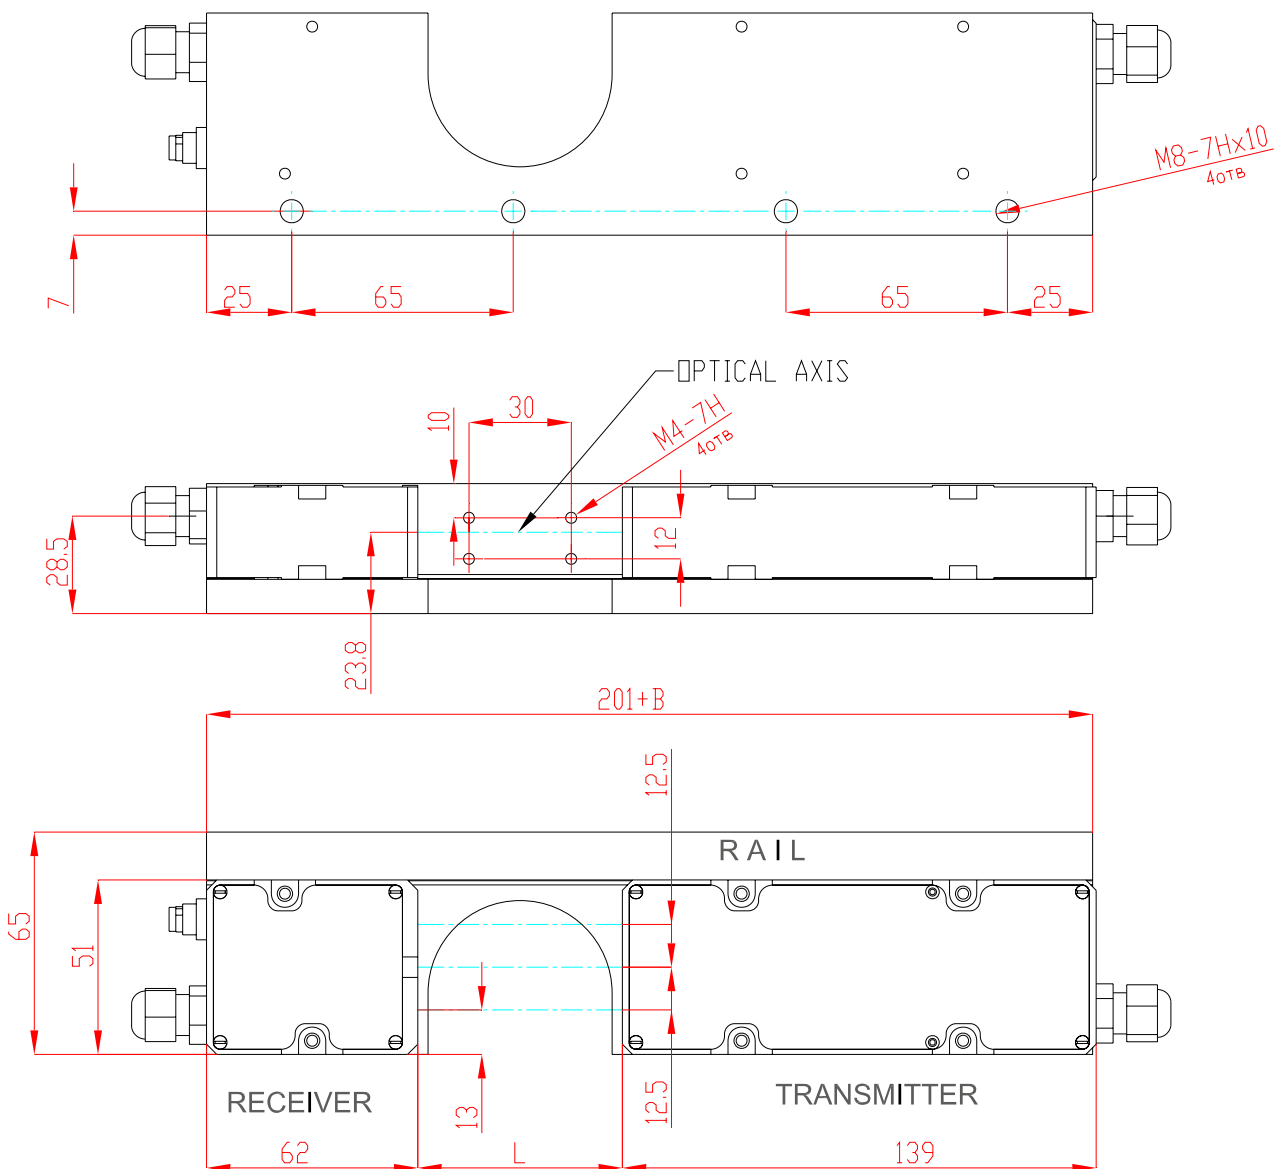
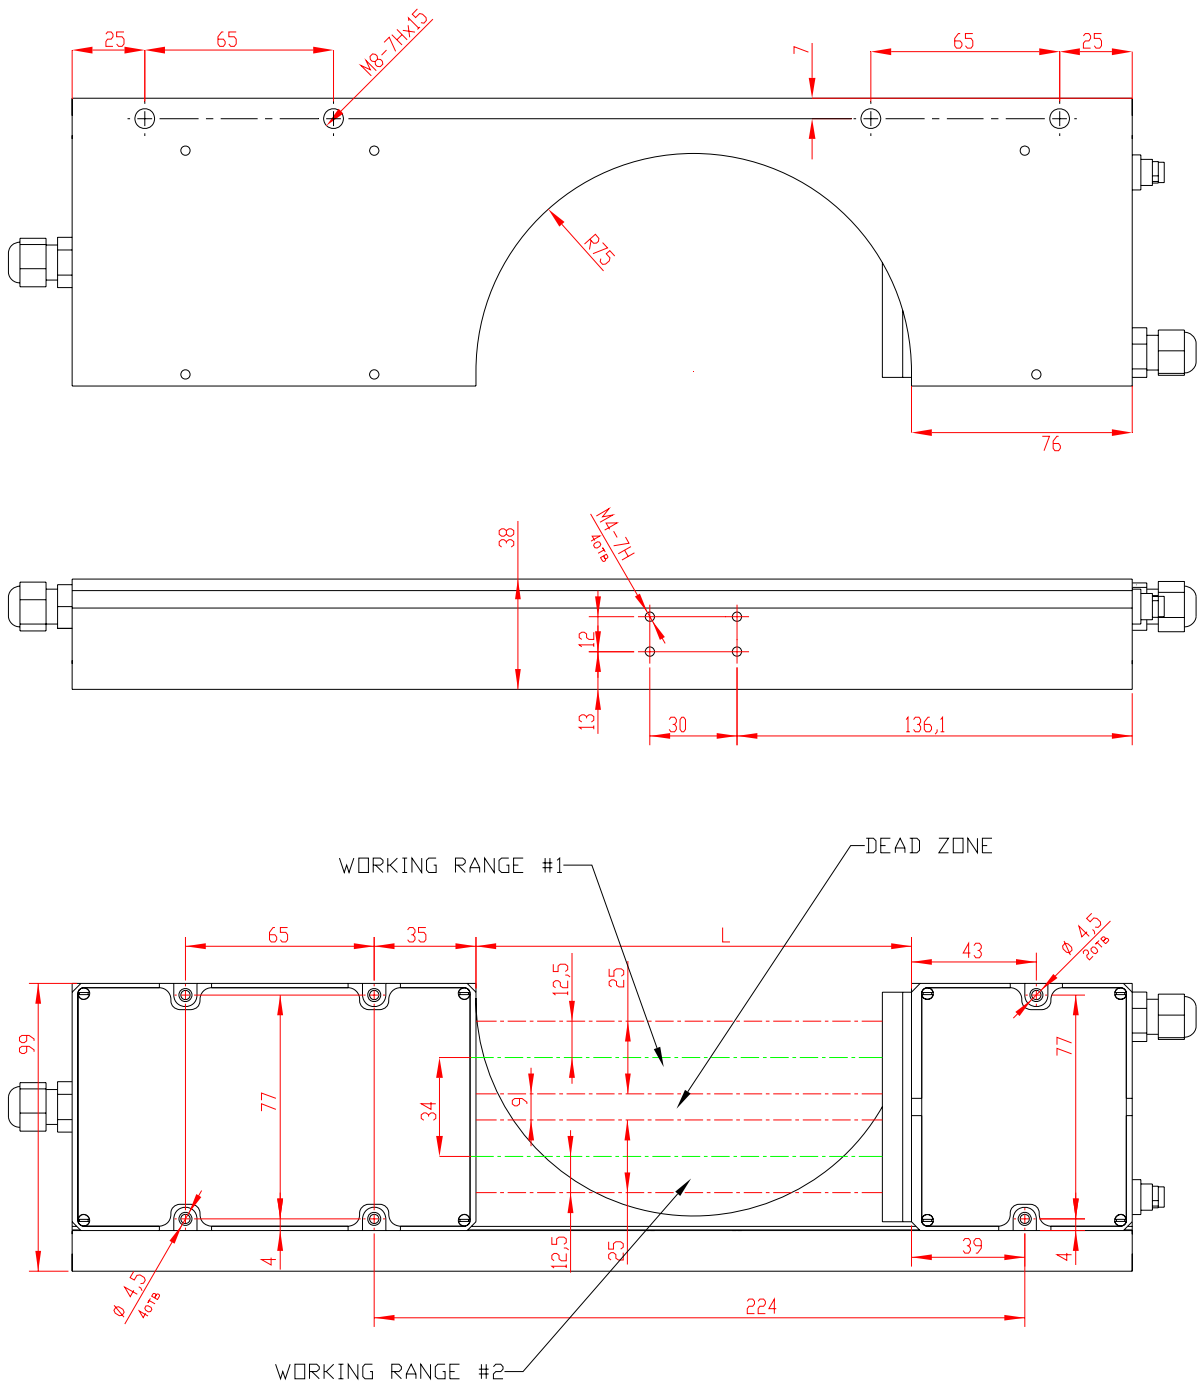

Figure 3.
Figure 4.
¹ With central dead zone of 9 mm (figure 4)
- Overall and setup dimensions of the RF651-25 micrometer are shown in Fig.3, RF651-5 – in Fig. 4. Bodies of the receiver and transmitter are made of anodized aluminum. On the front panel of the body there is a window, on the opposite face there are power supply and interface connectors. Transmitter and receiver are mounted on the rail. The rail have fastening holes allowing setup of the device on equipment.